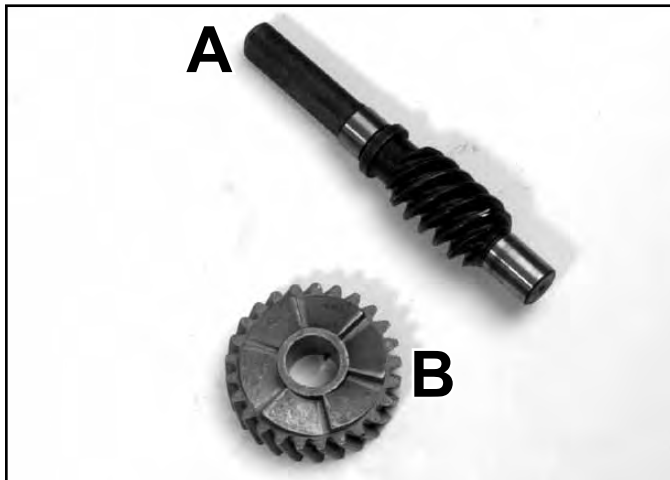

Fig 014 3428-0157
13. Worm and helical gears are sold as a set. Even after a short run time, they will develop a wear pattern. Replacing only one gear will result in rapid failure (Fig. 014).